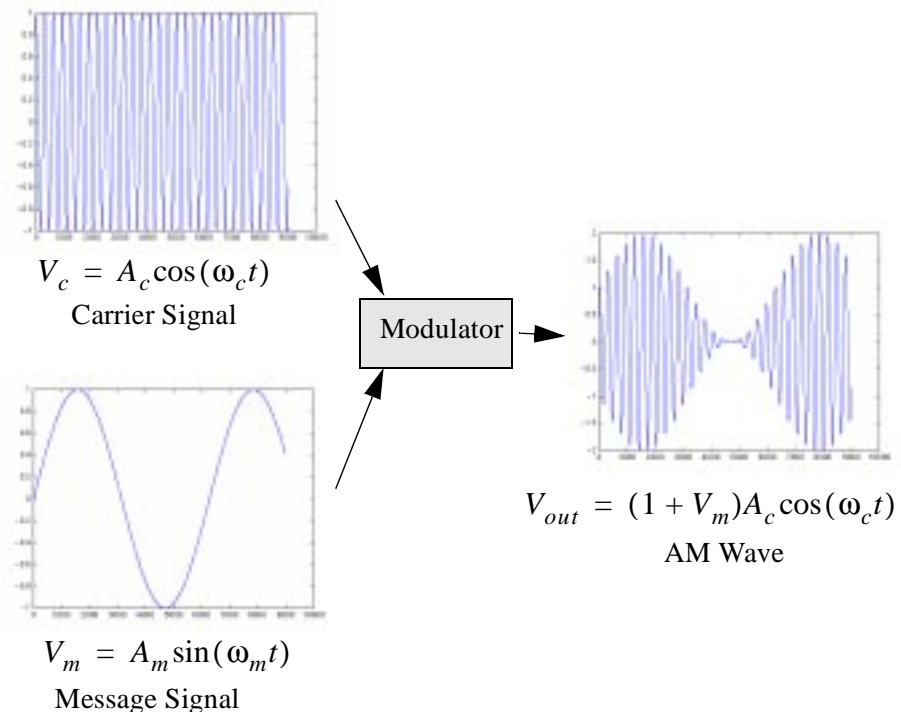
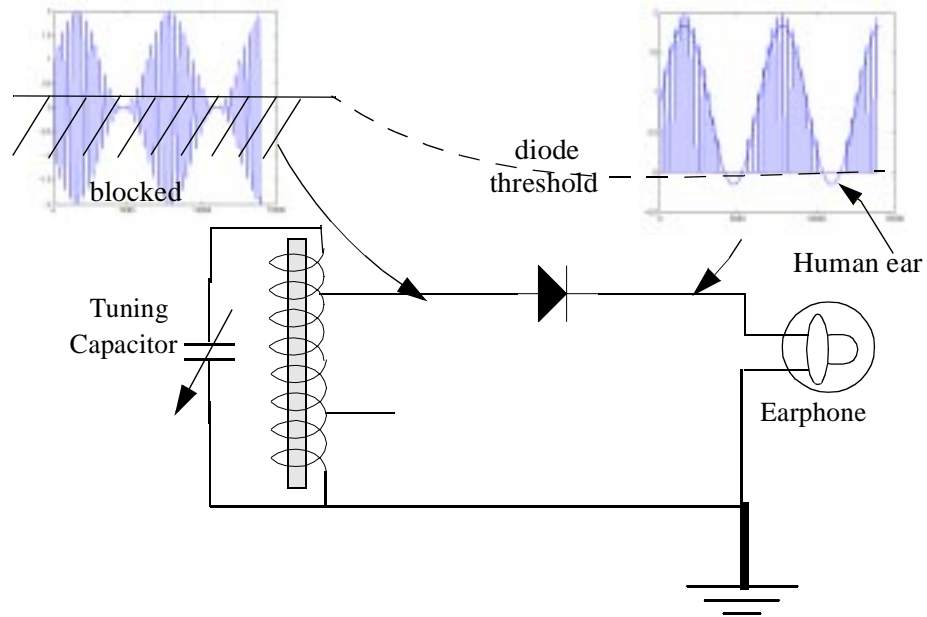

Figure 3.2—Amplitude modulated signal consist of a message signal V_m controlling the amplitude of the carrier signal V_c
Figure 3.4—The waveforms at various points with an input AM as described in Figure 3.2
In Amplitude Modulation (AM), the amplitude of the high frequency signal is varied by a low frequency signal that needs to be transmitted. Figure 3.2 shows a
The Germanium diode that has a low cut-in voltage allows current only in one direction and only the one half the cycle is transferred to the earphone. The earphone acts as a low pass filter as it is designed for the human ear (20Hz-20KHz). The waveforms at various points of the circuit for a modulated signal in Figure 3.2 is shown in Figure 3.4. Note that it is difficult to actually see audio waveforms on an oscilloscope so a test signal with a single message frequency must be used.